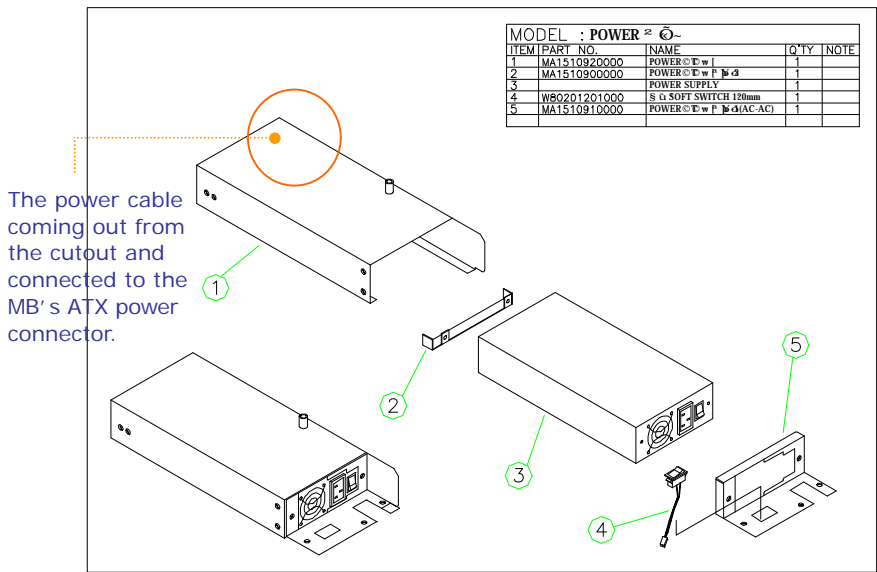

FIGURE 5-11: APOLLO AC POWER MODULE
1. Refer to Figure 5-11. Attach the power fix bracket (2) to the power supply (3) and fix them together with 2 FMS screws (3*5). This small bracket is used to prevent the power supply from moving around in the power bracket.
2. Insert the power supply to power bracket (1) and fix them together with four 3*5 screws.
4. Insert the power switch (4) to power bracket (5). The other end of the switch cable is to be connected to the 2-pin POWER ON switch, SW1 on the motherboard.